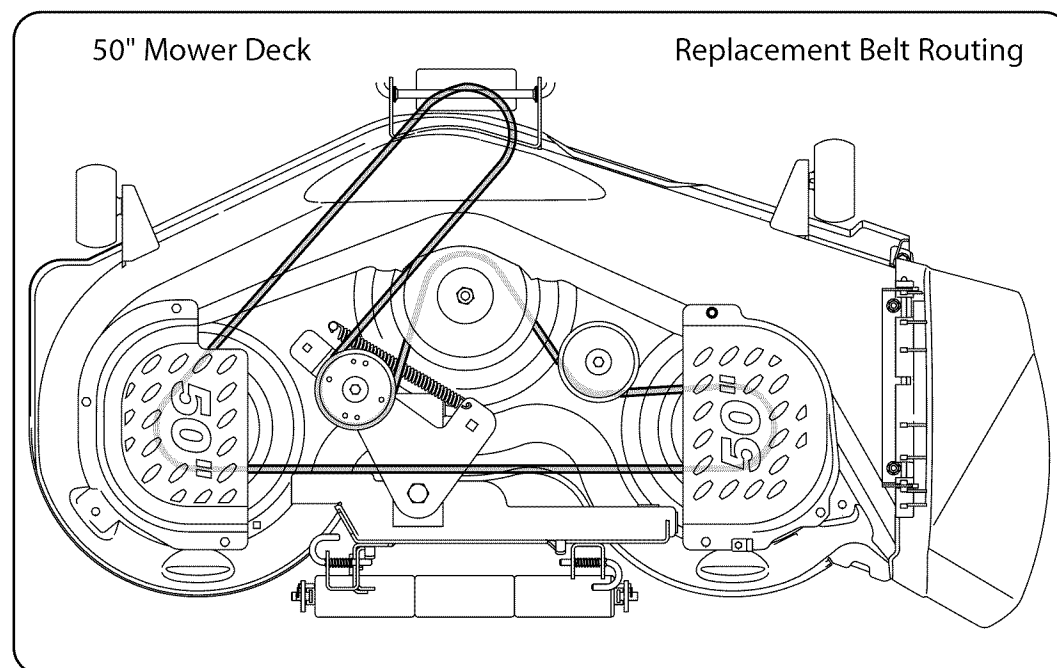

Figure 27 Replacement Belt Routing 50" Mower Deck
3. Route the deck belt around the spindle pulleys and idler pulleys as shown in Figure 27.